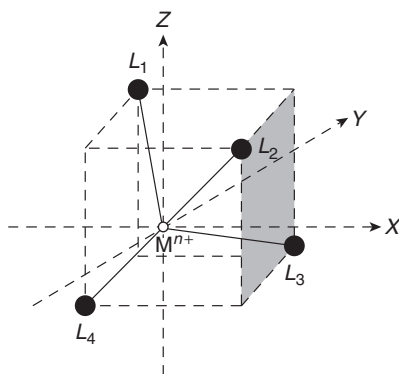
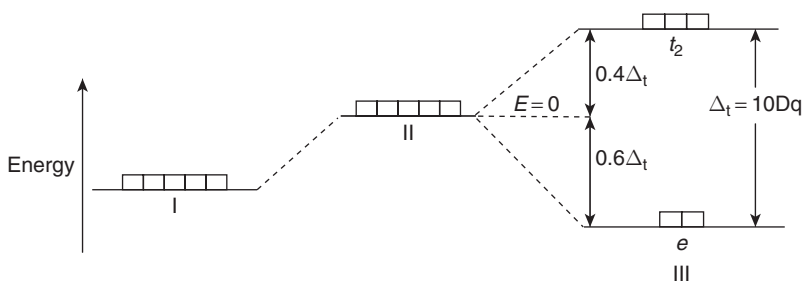

Figure 8 Central metal ion is surrounded by four ligands in a tetrahedral complex.
Figure 9 Crystal field splitting of  $d$ -orbitals in a tetrahedral complex or in a tetrahedral ligand environment.
1. The coordination number of a complex compound with tetrahedral geometry is 4. All the four ligands in a tetrahedral complex occupy four alternate corners of a cube in which the central metal ion is placed at the center as shown in Figure 8.
2. In Figure 9, State I represents degeneracy of all five  $d$ -orbitals in the isolated metal atom or ion and State II represents  $d$ -orbitals with higher energy when surrounded uniformly by ligands. In a tetrahedral complex, the ligands approach to the central metal ion in between the coordinate axes which is shown in Figure 8. So, the electrons present in  $d_{xy}$ ,  $d_{yz}$  and  $d_{zx}$  orbitals, which have orientations in between the coordinate axes, will experience more repulsion from the ligands. This causes the increase in energy of these three orbitals. As a result, five degenerate  $d$ -orbitals of the central metal ion are split into two sets of orbitals. This splitting of  $d$ -orbitals of the central metal ion in the presence of tetrahedral ligand field is known as crystal field splitting in tetrahedral complex. It is shown in State III in Figure 9.